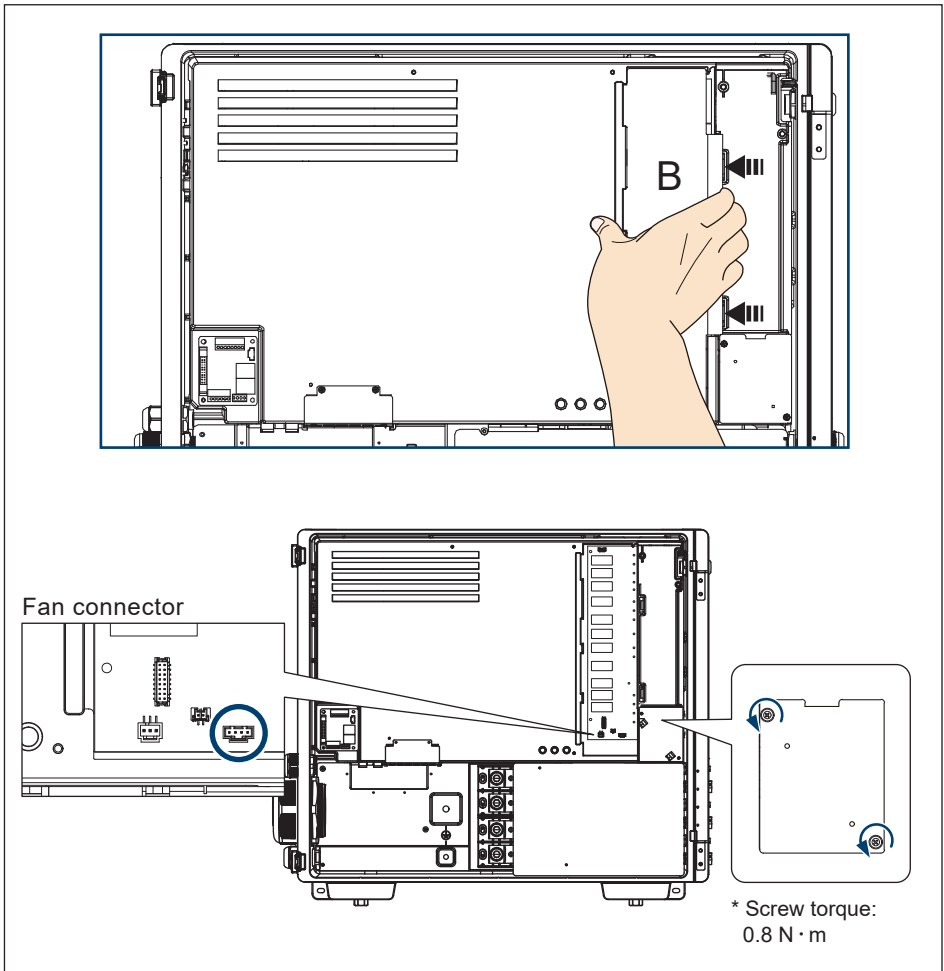

Figure 5-12: Internal fan 1 location & remove the shield cover
To reassemble reverse the order of the above procedure and tighten screws to torque values indicated in **Figure 5-12**.
- (1) Remove the B cover. (**Figure 5-12**)
- (2) Disconnect the power connector on the LED board. (**Figure 5-12**)